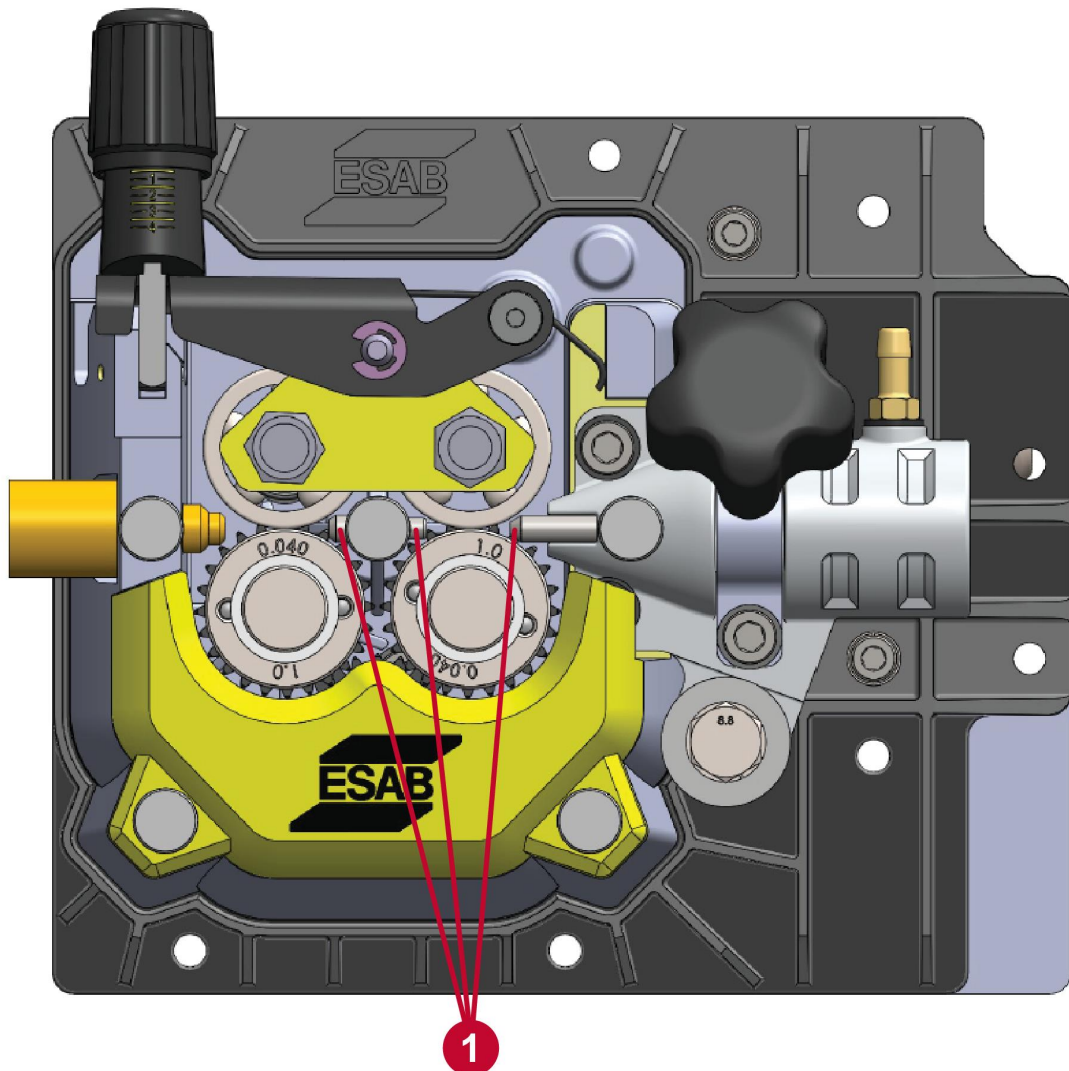

Figure 20. Verify clearance of both guide tubes
1. Verify center wire-guide tube has clearance from each feed-roller. The center wire-guide tube set screw should be finger-tight (see Figure 20 and 18). The center wire-guide tube requires no adjustment, but it must be inserted completely to assure clearance from the rollers.
2. Adjust the output wire-guide tube for 1 mm (0.03 in.) of clearance from the right feed-roller (see Figure 20), verify center wire-guide tube has clearance from each feed-roller and tighten its thumb screw finger-tight.